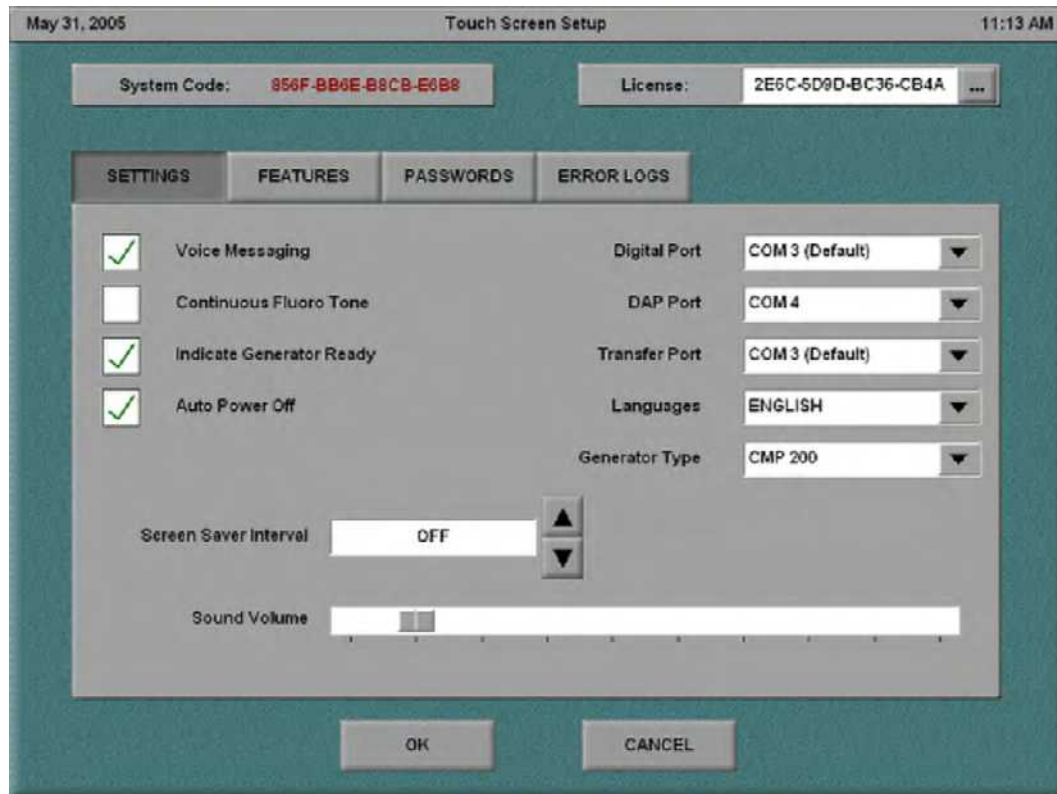

Figure 3C-30: TouchScreen setup window, Settings tab
2.	The touchscreen setup window will be displayed (figure 3C-30). This has four tabs, SETTINGS , FEATURES , PASSWORDS , and ERROR LOGS that will be discussed in sequence.